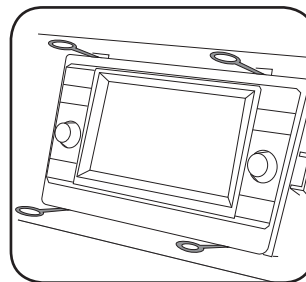

Fig. 1.6
6. Insert the four (4) supplied radio keys into the slots at the top and bottom of the factory radio with the tapered sides facing inward, pull outward to remove the radio from the dash. Disconnect all harness and remove. (Fig. 1.6)